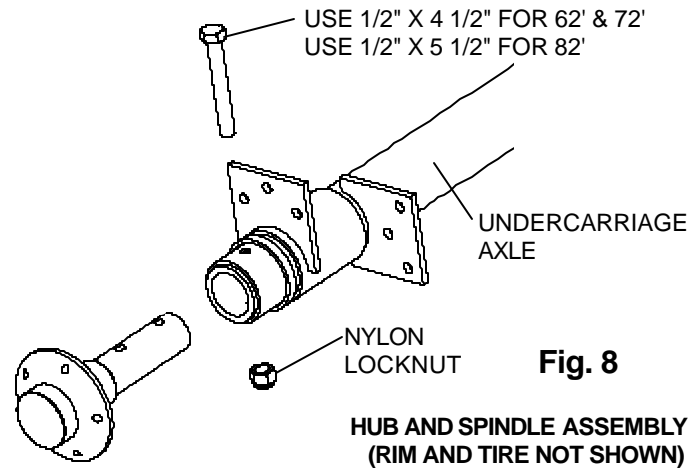

Fig. 8
- B. Slide the hub and spindle assembly into the undercarriage axle and secure with 1/2" dia. (Grade 5) hex head cap screw and nylon locknut. (See Fig. 8.) Mount the tire and rim to the hub with lug bolts.